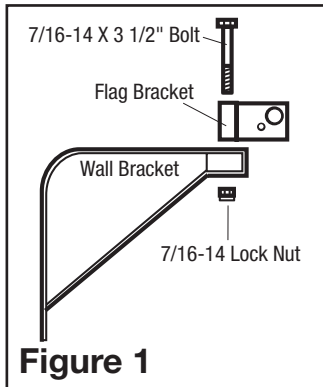
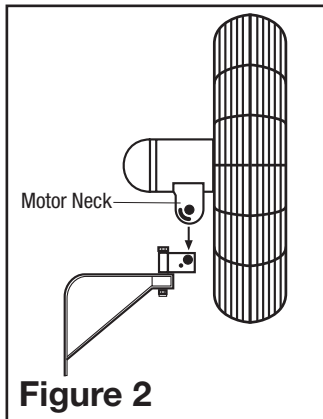

Figure 1
Figure 2
1. Insert the 7/16-14 x 3-1/2" bolt through flag bracket, wall bracket and into the 7/16-14 lock nut. Tighten with adjustable wrenches. **MAKE CERTAIN THE DIRECTION OF THE FLAG BRACKET IS FACING THE CORRECT WAY (Figure 1).**
2. The hardware to attach the wall bracket to the wall stud is not supplied. Locate the wall stud nearest to the desired fan location. Attach the wall bracket to the stud using (3) 5/16" diameter x 2" long lag screws.
3. Position the flag bracket in the motor neck and align the pivot hole with the larger hole in the flag bracket (**Figure 2**).